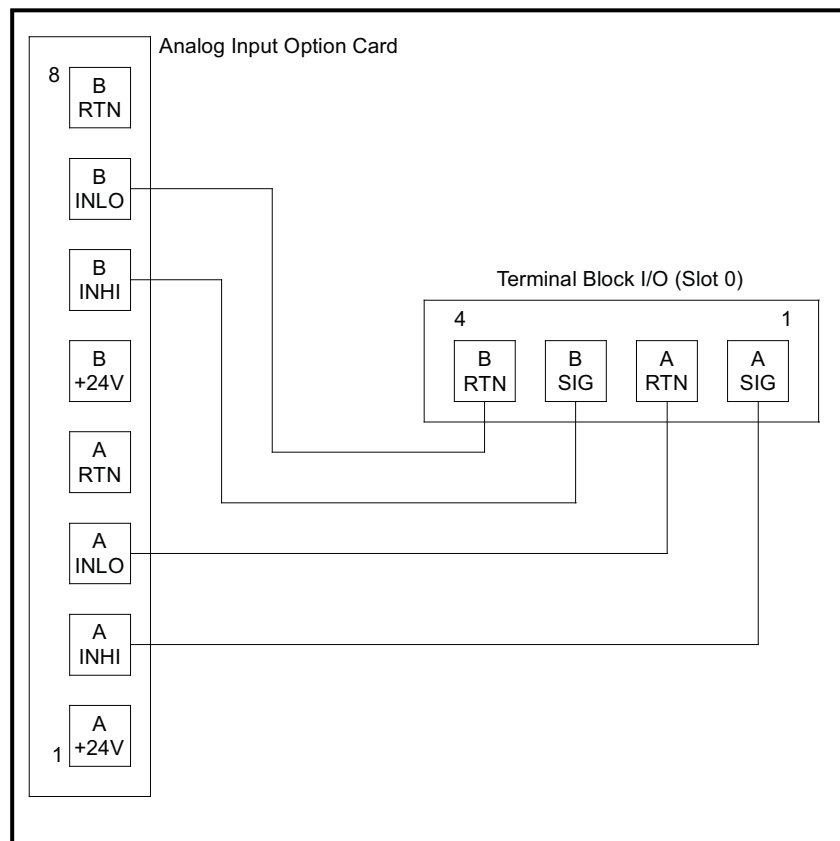

Figure 3: Analog Input Calibration Connections
Connect the **Slot 0** analog output(s) (or an independent calibrated current source) to the analog input(s) on the option card, as shown in *Figure 3* below. Refer to the menu map in *Figure 6* on page 17 as a guide.
The procedure for calibrating **Input A** is identical to that for calibrating **Input B**. However, when calibrating **Input B**, be sure a calibrated current source is connected to the appropriate pins on the terminal block. See *Figure 3* on the previous page for the correct pin numbers. To calibrate a 0/4–20 mA input card, see the section below.
1. Connect the 4 mA current source to the currently selected analog input, as shown in *Figure 3 on page 6*.
1. Connect the 20 mA current source to the currently selected analog input, as shown in *Figure 3 on page 6*.